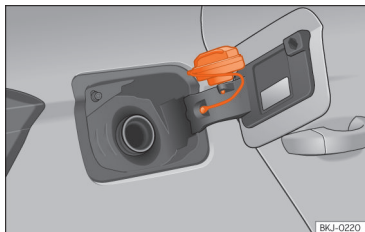

Fig. 186 Fuel tank flap with tank cap attached.
- Place it in the space on the hinge of the open flap » Fig. 186.